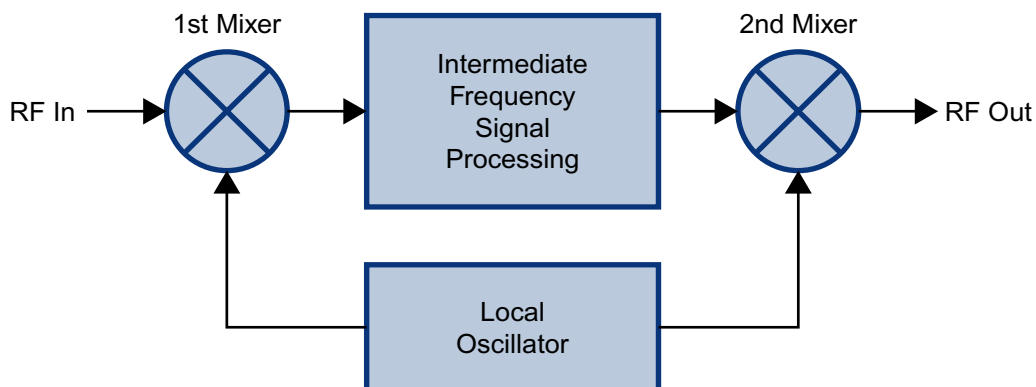

Figure 1: The down converter / up converter process.
- Figure 1: The Down / Up Converter Process 1**
Figure 1 shows a simplified block diagram that illustrates the down/up conversion principle. An incoming signal at (Freq IN) is applied to the first mixer along with a signal from a local oscillator (Freq LO). A third signal at an intermediate frequency (Freq IF) is produced as a result of the mixing. The intermediate frequency is given by the following relationship: